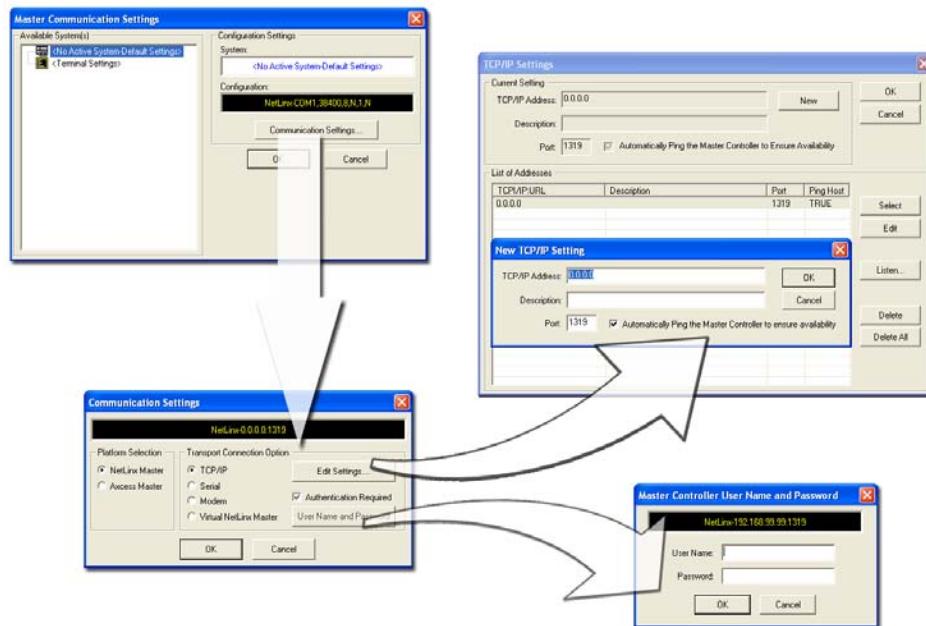

FIG. 59 Assigning Master Communication Settings and TCP/IP Settings
3. Select **Settings > Master Communication Settings** from the Main menu to open the Master Communication Settings dialog (FIG. 59).
7. Click the **Edit Settings** button (on the *Communications Settings* dialog) to open the TCP/IP Settings dialog (FIG. 59). This dialog contains a series of previously entered IP Address/URLs and their associated names, all of which are stored within Studio and are user-editable.